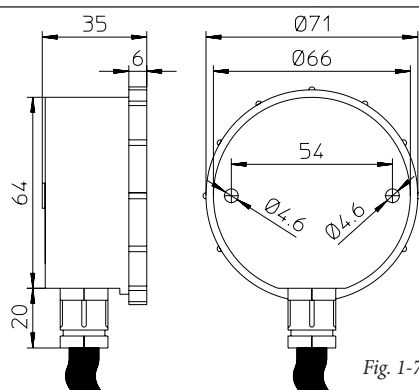
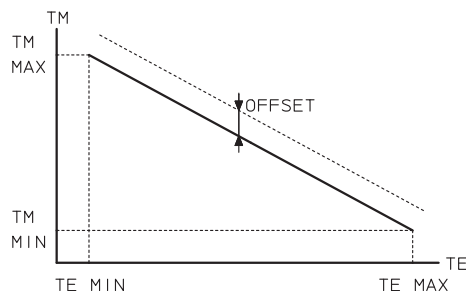

Fig. 1-7 Фиг. 1-7
Fig. 1-8 Фиг. 1-8
This probe (Fig. 1-7) can be connected directly to the boiler electrical system and allows the max. system delivery temperature to be automatically decreased when the outside temperature increases, in order to adjust the heat supplied to the system according to the change in external temperature. The external probe always operates when connected, regardless of the presence or type of room chronothermostat used and can work in combination with Immergas chronothermostats). The correlation between system delivery temperature and outside temperature is determined by the parameters set in the "CONFIGUR" menu under "TERMOREG" according to the curves represented in the diagram (Fig. 1-8). The external probe electrical connection must be made on clamps 38 and 39 on the boiler circuit board (Fig. 3-2).
(IE) - EXTERNAL PROBE (Fig. 1-8)
(BG) - ВЪНШНА СОНДА (Fig. 1-8)